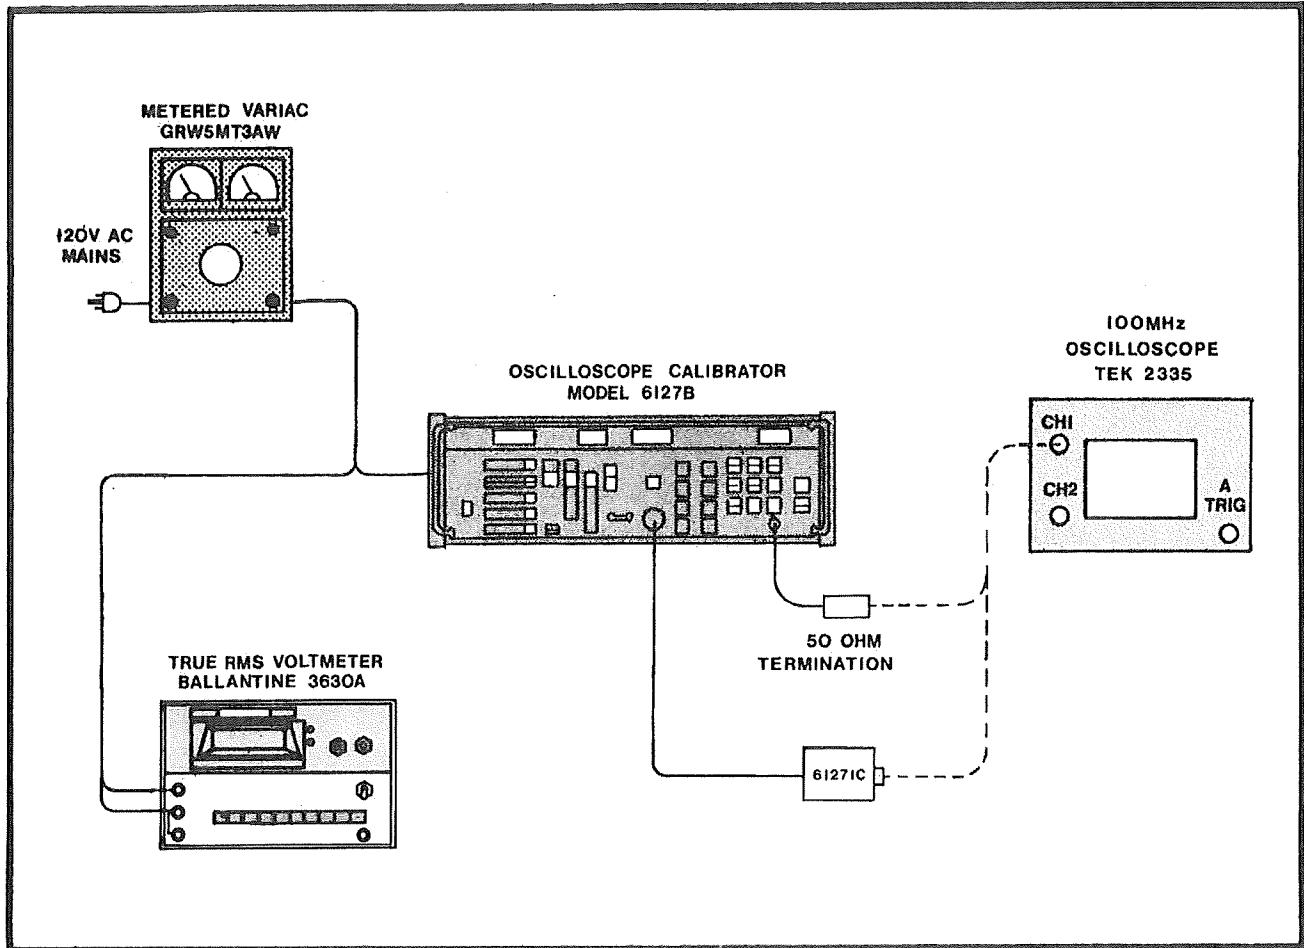

Figure 5-2. Time/Div and Trigger Amplitude Check, Test Set-Up
a. Interconnect the 6127B Calibrator and test equipment as shown in figure 5-2.